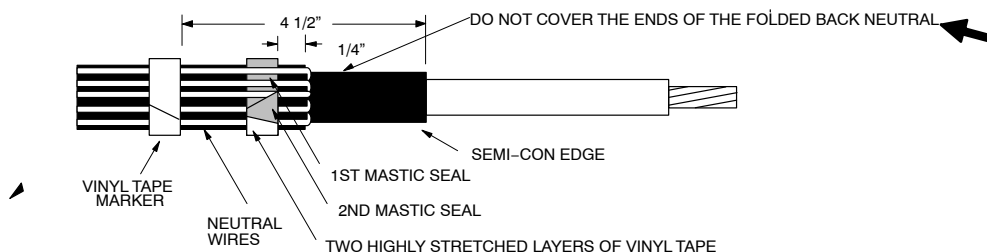

FIGURE 3
4. Bend neutral wires back over applied mastic and secure to cable jacket 4–1/2" from the edge of the semi-con. Use vinyl tape to secure the wires. This tape will also be used to position the terminator, so the location is critical. See Figure 3.
5. Select the second mastic strip from the kit and remove the white release liners. Apply a second mastic band over the neutral wires and the previously applied mastic strip. Cut off excess. See Figure 3. Compress the neutral wires into the mastic by over-wrapping the strips with two highly stretched layers of vinyl tape. Be sure to cover all exposed mastic. See Figure 3.